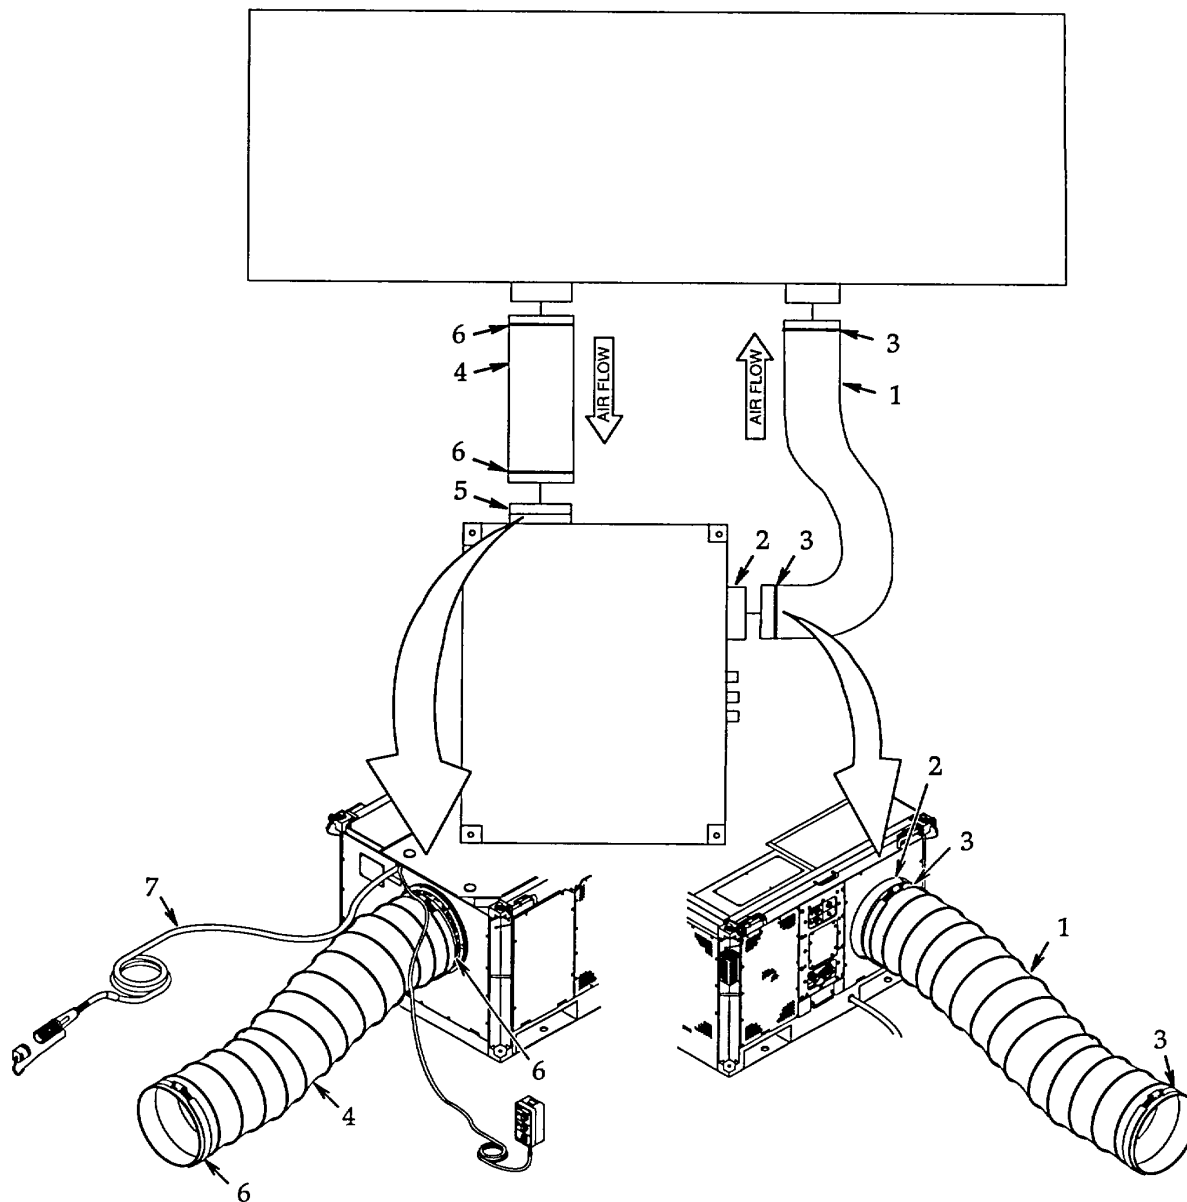

Figure 4-6. Ducts and Input Power Connection.
4.4.6 **Connect Ducts and Input Power.** See figure 4-6.